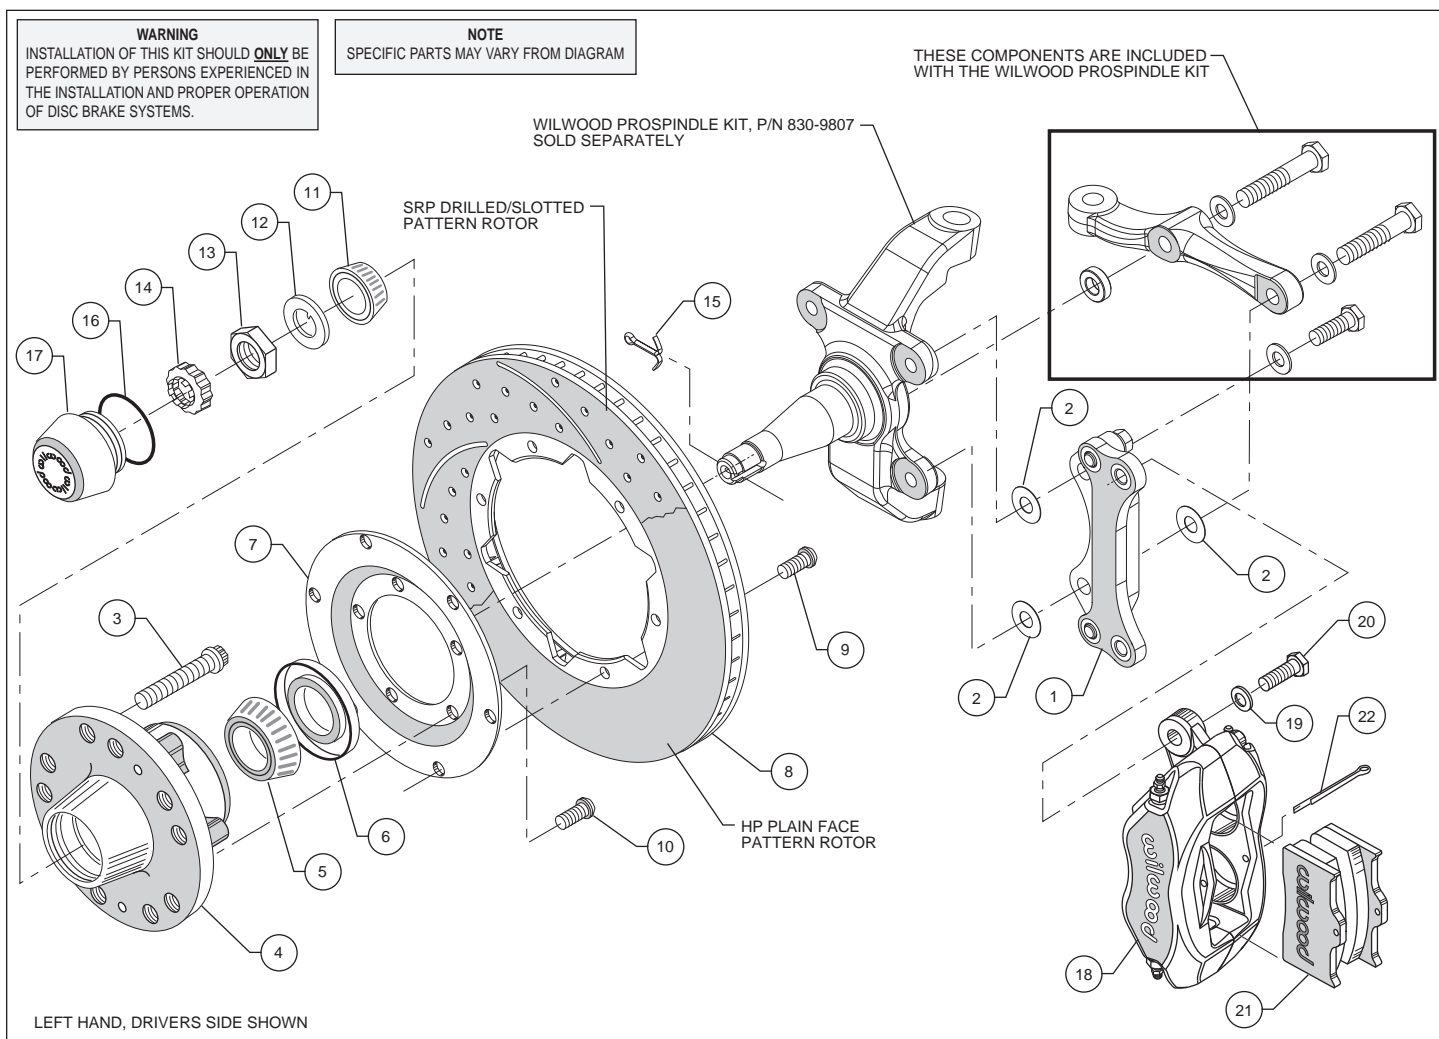

Figure 1. Typical Installation Configuration
- The caliper mounting bracket assembly (1) in conjunction with the Wilwood ProSpindle (P/N 830-9807, includes three mounting bolts, three washers, and a spacer, kit sold separately) should be installed first with clean, dry threads on the mounting bolts. Install the bracket on the inboard side of the spindle by sliding the 1.25" long bolt from the ProSpindle kit through a flat washer, also from the ProSpindle kit, through the top hole of the caliper mounting bracket (1) and into the upper rear spindle mounting ear hole, do not tighten at this time. Use two thin shims (2) between the bracket (1) and spindle during initial trial fitting. Slide the 2.00" long bolt from the ProSpindle kit through a flat washer, through the rear (thinner end) hole on the steering arm, through two shim washers (2), through bottom hole of mounting bracket (1), through another two shim washers (2), and finally into the lower rear spindle mounting hole. The bracket (1) is positioned between the steering arm and the spindle for the bottom bolt installation. The bracket and shim washers for the lower rear mounting must be a thickness of $.550 \pm .010$ ". Again, do not tighten. Finish installing the steering arm assembly by sliding the 2.25" long bolt through flat washer, then through the front (thicker end) hole of the steering arm. Place the .25" thick spacer between the steering arm and the backside of the spindle. Snug all three bolts. The bracket must tighten squarely against the inboard side of the caliper mounting bosses on the spindle body. Inspect for interference from casting irregularities, machining ridges, burrs, etc. **NOTE:** Be sure the heads of the caliper bracket (1) insert nuts are facing outward toward the wheel.
- Install wheel studs (3) into the hub (4). Torque to 77 ft-lb. **NOTE:** There are two lug patterns of five holes each in the hub (5 x 4.50 and 5 x 4.75). Make sure of the correct hole pattern for the wheel application before installing the studs into the hub.
- Orient the rotor (8) and the rotor adapter (7) as shown in Figure 1. Attach the rotor to the adapter using bolts (9). Using an alternating sequence, apply red *Loctite*® 271 to the threads, and torque to 25 ft-lb.
- Mount the adapter/rotor assembly (7/8) to the hub (4) using bolts (10), as shown in Figure 1. Using an alternating sequence, apply red *Loctite*® 271 to the threads, and torque to 55 ft-lb.
- Pack the large inner bearing cone (5) with high temperature disc brake bearing grease (available from your local auto parts store) and install into the backside of the hub (4).
- Install the grease seal (6) by pressing into the backside of the hub (4).
- Pack the small outer bearing cone (11) with high temperature disc brake bearing grease and install into front of hub (4). Slide the hub assembly (4, 5, 6 and 8) with outer bearing cone (11) onto the spindle. Secure using spindle washer (12), adjusting nut (13) and nut retainer (14). secure to spindle using cotter pin (15). Adjust bearing using a 12" wrench to tighten the adjusting nut while turning the rotor. When the rotor binds slightly, all the bearing parts are seated properly. Back of the nut 1/6 to 1/4 of a turn or enough to allow 0.001 to 0.007 end play. Lock the nut with a new cotter pin. **WARNING:** Failure to back off the adjusting nut may cause the bearing to run hot and be damaged, which could cause the wheel to lock or come off during operation, creating a risk of serious bodily harm.
- Install the o-ring (16) and the dust cap (17) onto the hub (4). Friction created by the o-ring (16) on the dust cap (17) keeps it from unscrewing on its own.